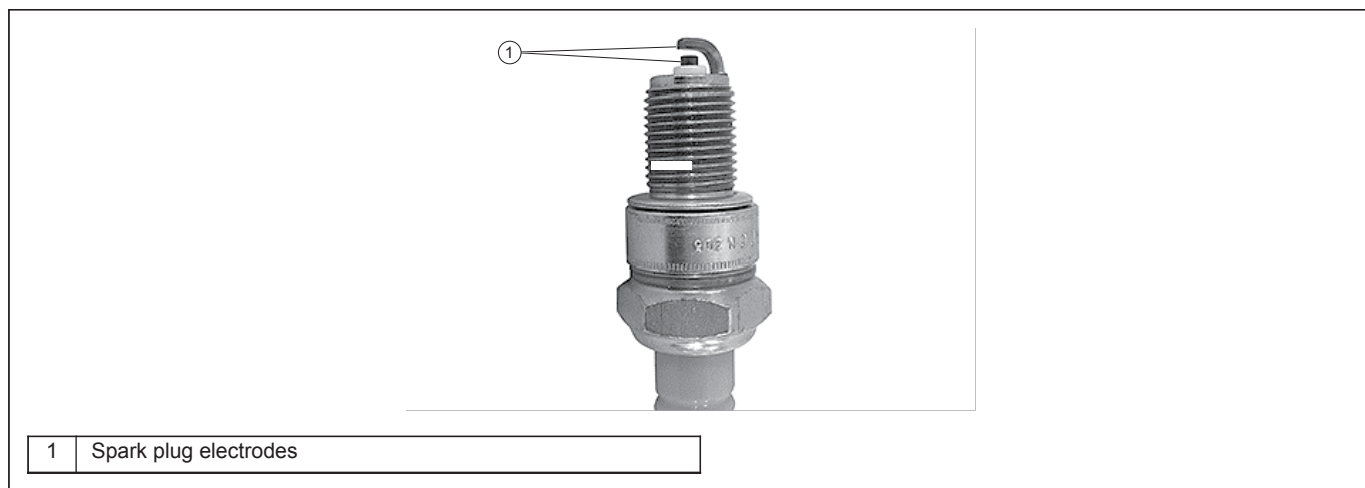

Figure 26: Spark Plug Electrodes
6. Inspect the electrodes on each spark plug. See Figure 26. The electrodes should be light brown. If the electrode appears to be burned, covered with soot, or fouled with oil, replace the spark plug.